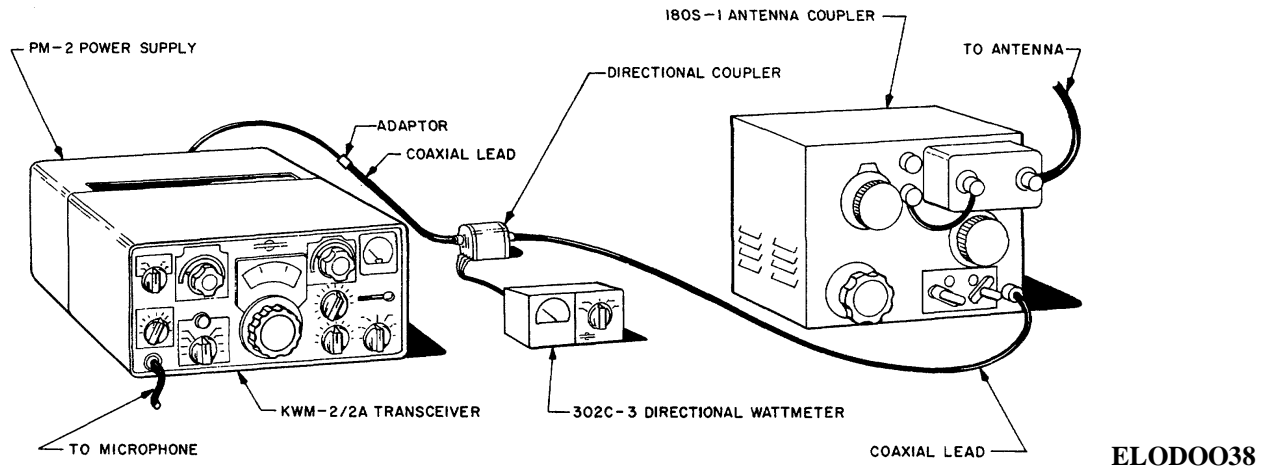

Figure 12-2. CU-2004/U and Collins KWM-2/2A, hookup diagram.
12-3. Installation (fig. 12-2)
- a. Connect the Collins KWM-2/2A, 302C 3 directional wattmeter and antenna coupler as shown in figure 12-2. Leave the coaxial lead disconnected from the coupler at this time.